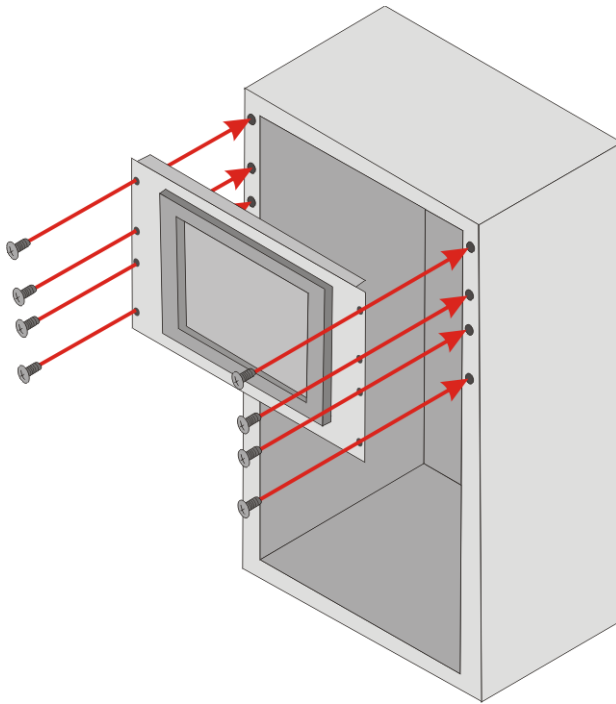

Figure 3-19: Install into a Rack/Cabinet
- Step 5:** Slide the PPC-2710/PPC-2712 flat panel PC with the attached rack/cabinet bracket into a rack or cabinet (**Figure 3-19**).
Step 6: Once the PPC-2710/PPC-2712 flat panel PC with the attached rack/cabinet bracket has been properly inserted into the rack or cabinet, secure the front of the rack/cabinet bracket to the front of the rack or cabinet (**Figure 3-19**).